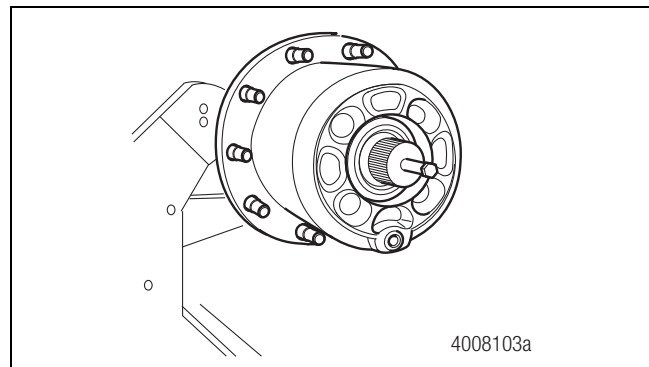

Figure 3.6
11. Pull to remove the axle shaft from the housing. If available, thread a 3/8" x 16 bolt into the end of the axle shaft to assist removal. Figure 3.6.